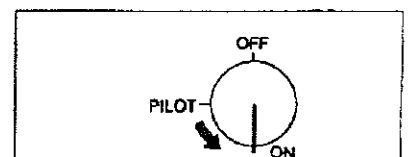

Figure 17. Rotate control valve to ON position to ignite burner.
6. Push the control knob all the way in and hold. Immediately light the pilot with a match. Continue to hold the control knob in for about one (1) minute after the pilot is lit. Release knob and it will pop back out. Pilot should remain lit. If it goes out, repeat Steps 3 through 5.
8. Turn gas control knob counterclockwise (↺) to the "ON" position. (See Figure 17.)